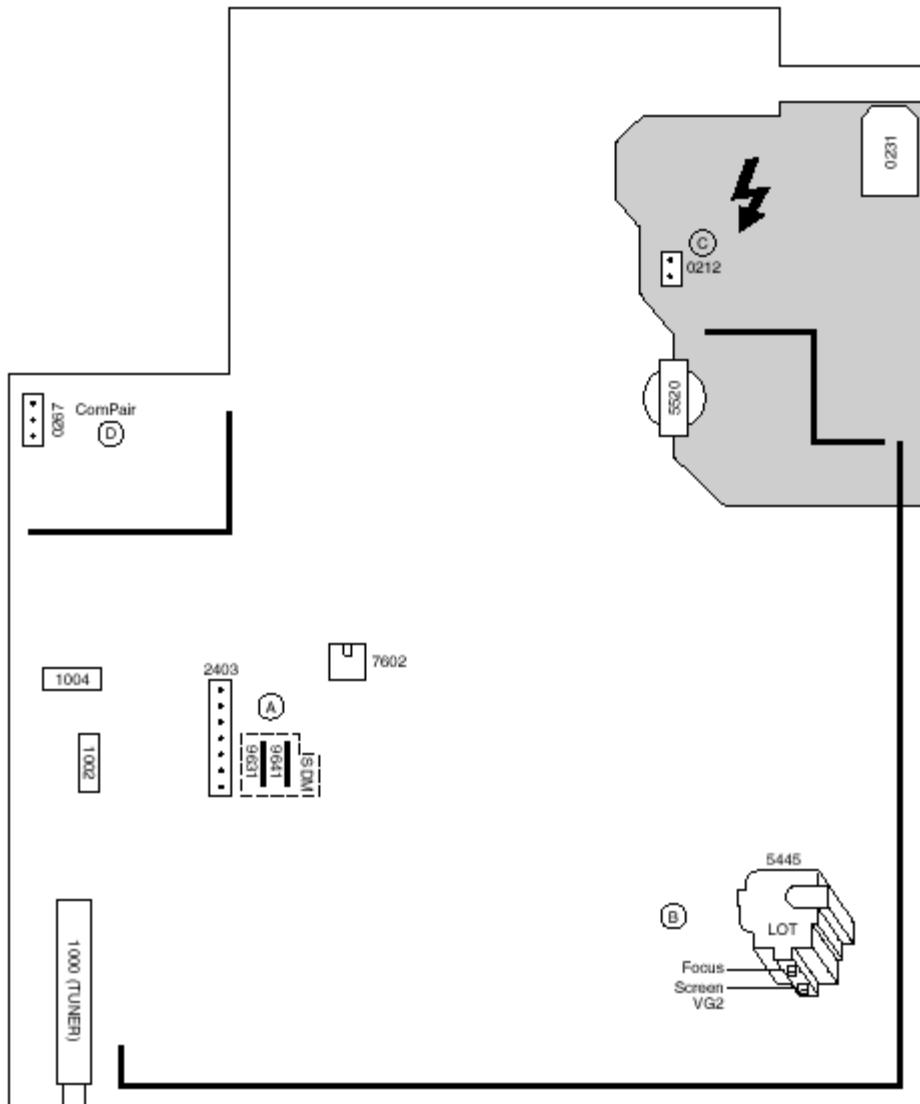

Fig. 1
10. Select the cathode with the highest  $V_{DC}$  value for the alignment. Adjust the  $V_{cutoff}$  of this gun with the SCREEN potentiometer (see Fig. 1) on the LOT to the correct value (see table below).
3. Adjust the FOCUS potentiometer (see Fig. 1) until the vertical lines at 2/3 from east and west, at the height of the centerline, are of minimum width without visible haze.